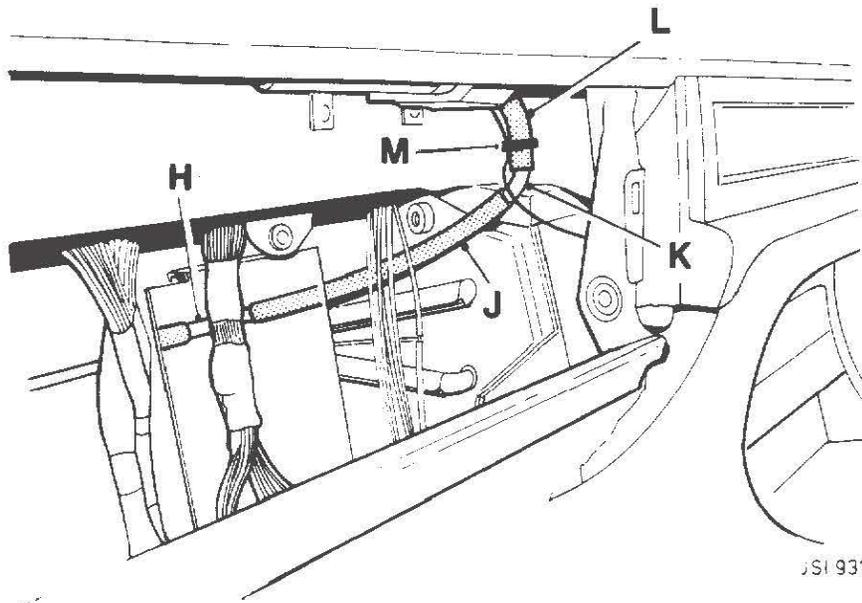

FIG 4
18. Fit and fully seat the elbow pipe (Part No. CAC 3398) into the blower motor ducting (Fig 4 H).
19. Connect the rubber hose (Part No. C 15 150/5) to the elbow (Fig 4 J).
20. Connect the second elbow (Part No. CAC 3398) to the hose (Fig 4 K).
21. Connect the adaptor hose (Part No. CBC 1835) to the 'in car' sensor and connect the elbow to the adaptor hose (Fig 4 L).
23. Secure the sensor harness to the aspirator pipe utilizing the ratchet strap (Part No. C45099) (Fig 4 M).